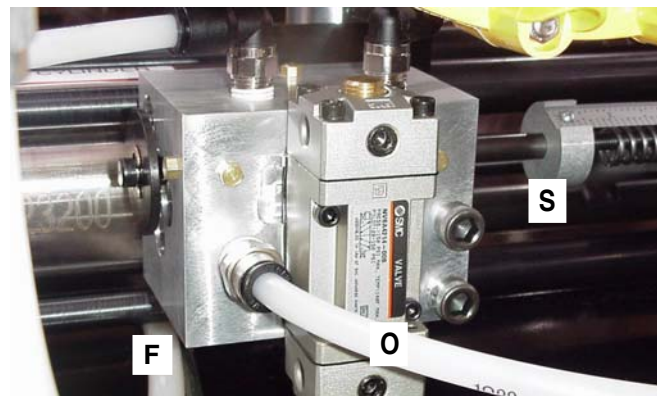

FIG. 24
1. Adjust the component A air regulator (O) for desired flow rate, FIG. 24.
2. Adjust the component B air regulator (F) to balance the A and B regulators.
4. Open the pump A and pump B air shutoff valve (S), FIG. 24.